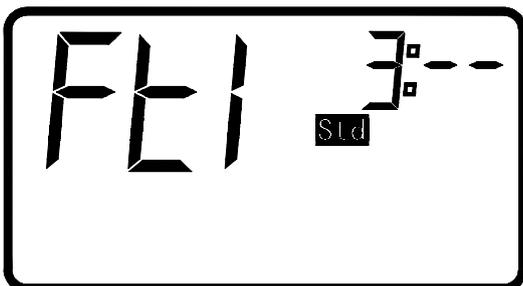

Fig.5: filtering lasts for 3 hours
5. In the setting status of “continuous working time of filtering cycle”, press “” button to change the time, the settings are 1-11 hours, and the default time is 3 hours (show as Fig.5).